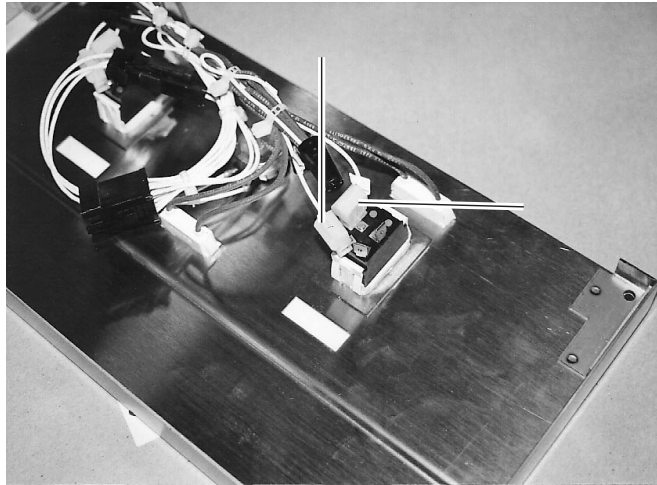

Fig. 19
2. From rear of control panel note and remove wire leads from the rocker switch terminals. (Fig. 19)